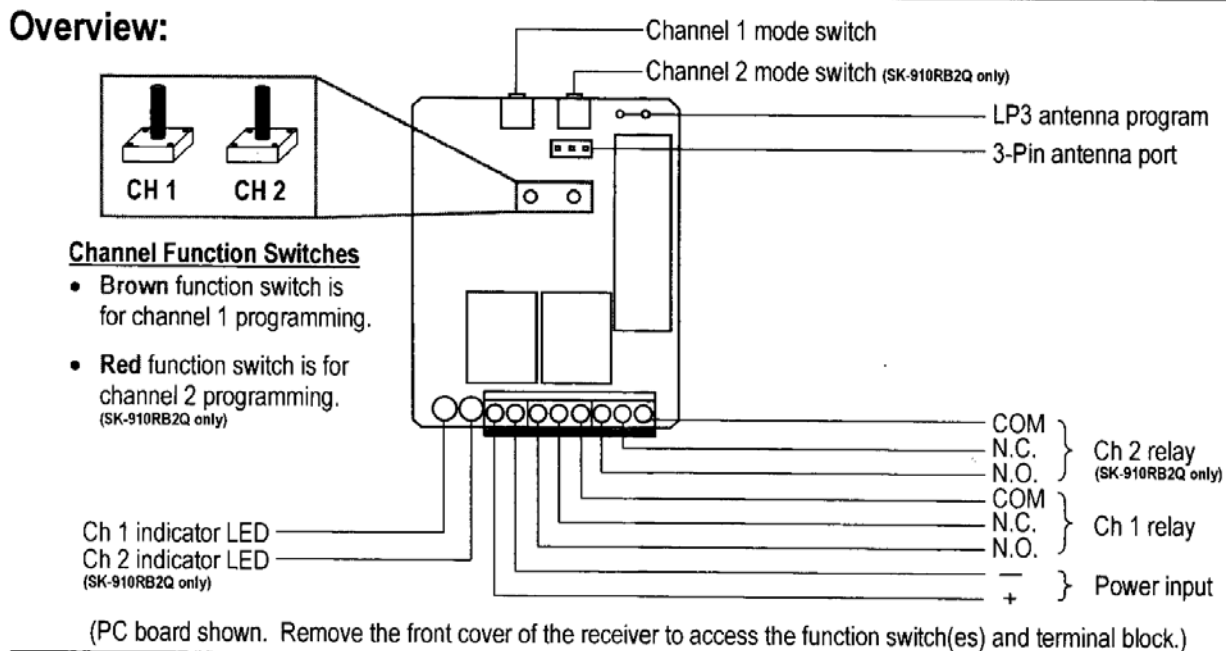

Fig. 4-1
- a) The channel mode switch(es) can be found at the rear of the receiver's case (see Fig. 4-1).